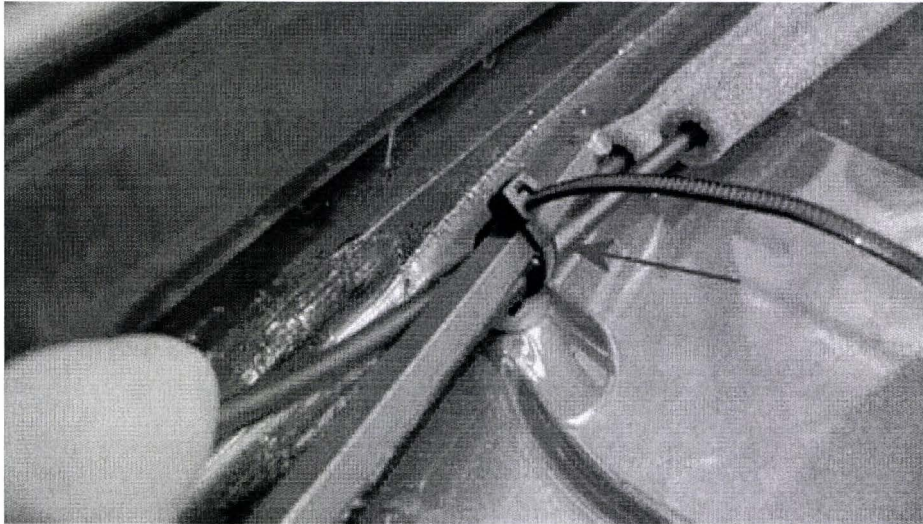

Figure 12
9. The new Bowden cable has the clipping points identified with a ring of black tape, ensure these markers are aligned with each clip. When clipping the Bowden cable do not over tighten the cable ties, figure 12 shows an Allen key used to gauge the cable tie pull down ensuring a running clearance is produced and over tightening does not occur